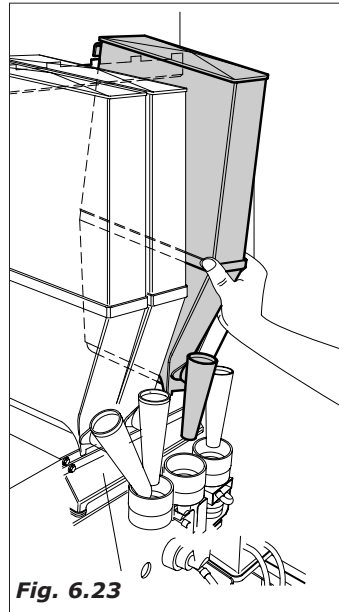

Fig. 6.23
- remove all the product containers from the distributor (Fig.6.23)